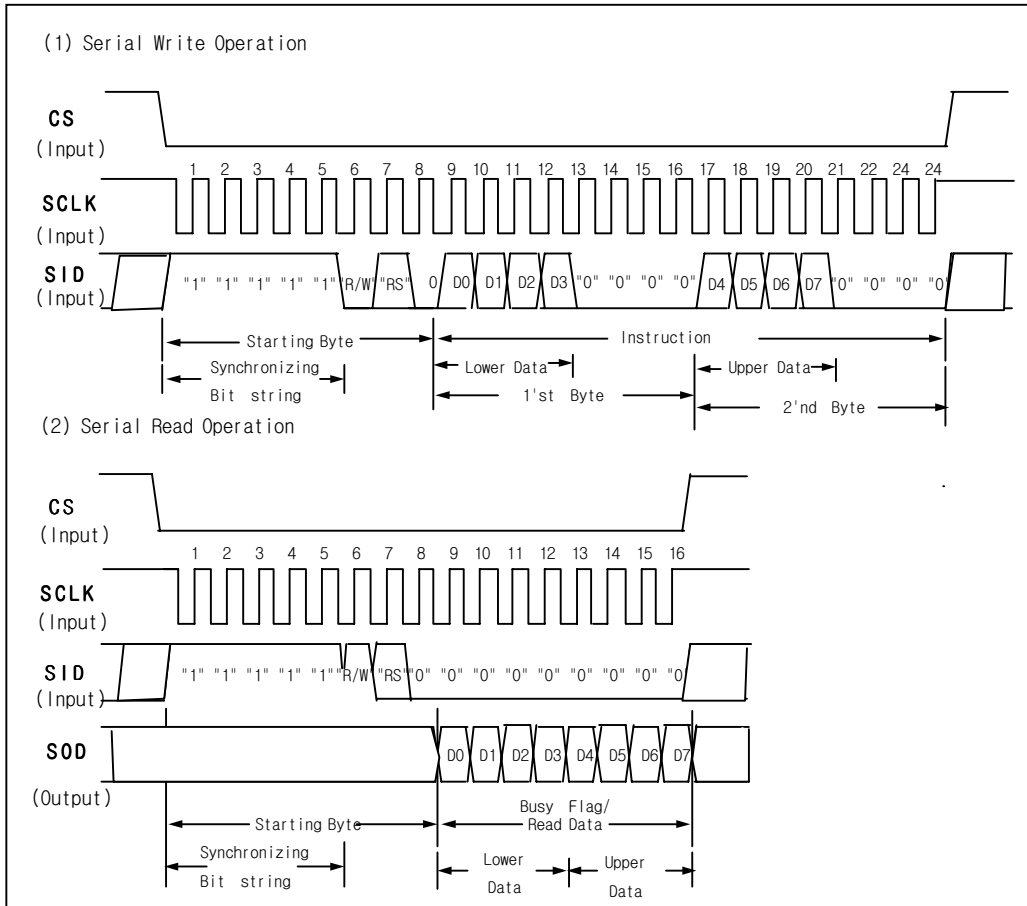

Fig 13. Timing Diagram of Serial Data Transfer
Before transfer real data, start byte has to be transferred. It is composed of succeeding 5 "High" bits, read write control bit (R/W), register selection bit (RS), and end bit that indicates the end of start byte. Whenever succeeding 5 "High" bits are detected by KS0074, it resets serial transfer counter and prepares to receive next information. The next input data are register selection bit which determine which register is to be used, and read write control bit that determine the direction of data. Then end bit is transferred, which must have "Low" value to show the end of start byte. (Refer to Fig 13. Fig 14)
(1) Write Operation (R/W = 0)